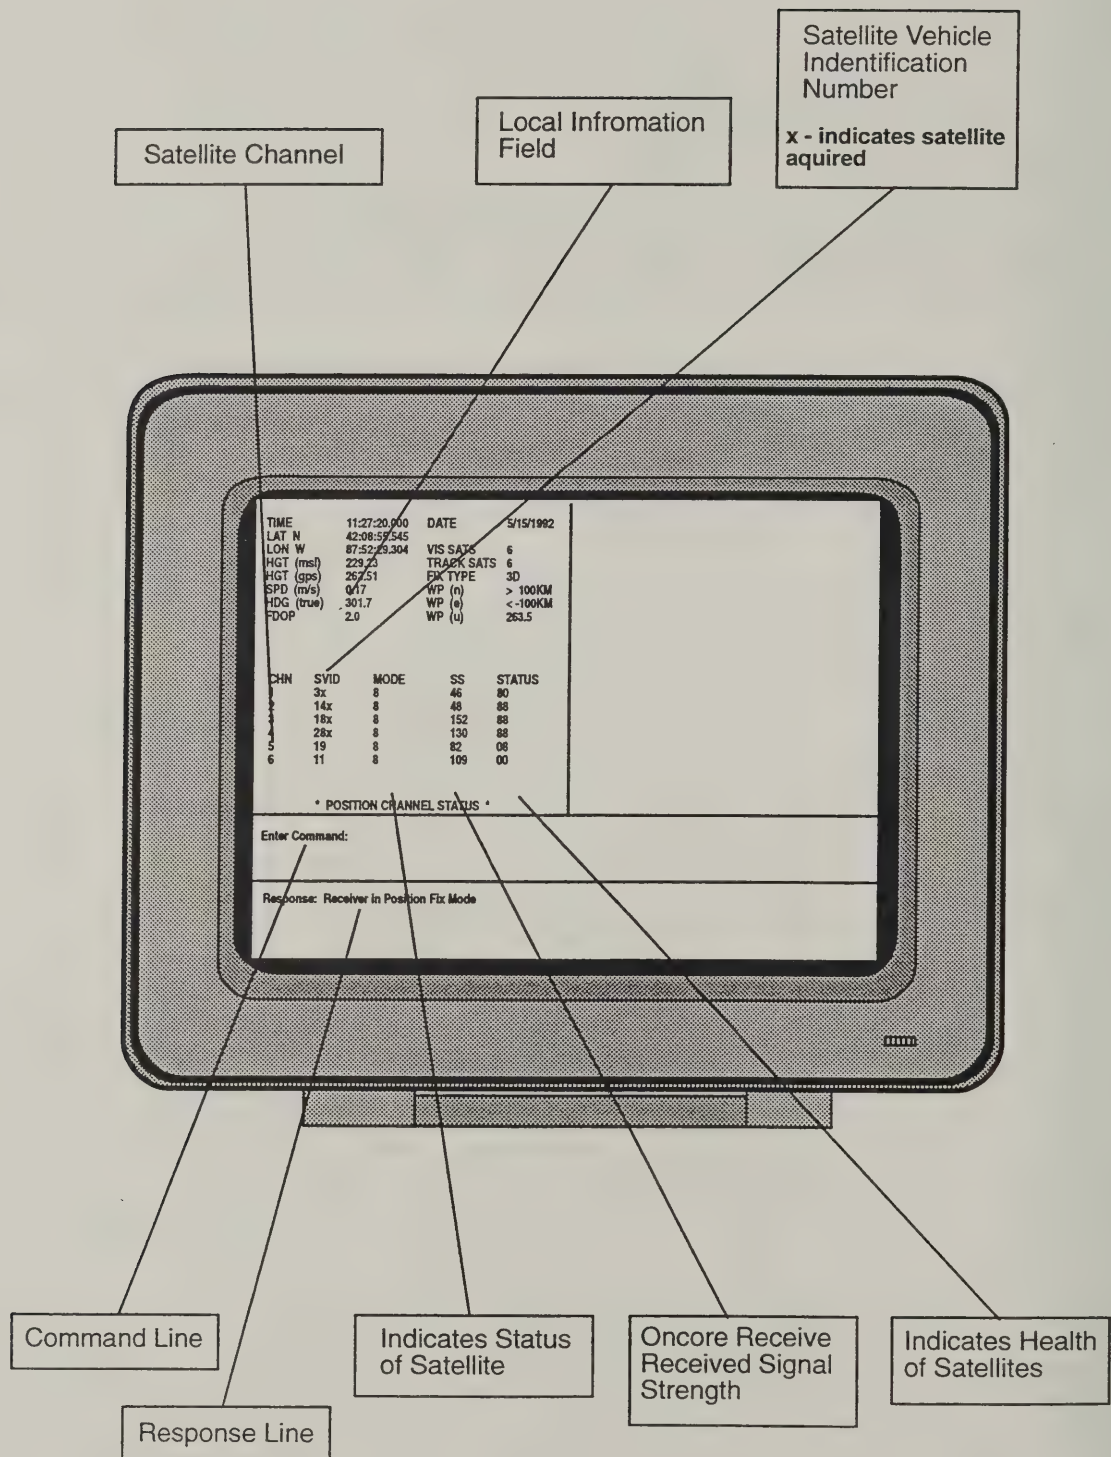

Figure 9: Display Screen
**Initial Setup** Initial setup procedures connect the computer, antenna and receiver together and initialize the computer and receiver. Steps 1 through 14 of the Action Table below describe the setup of the receiver module, antenna, computer and the loading of the PC Controller Software. Refer to Figure 1 & 4 for the ONCORE Receiver hardware setup and Figure 9 for the Command line and Response line location.